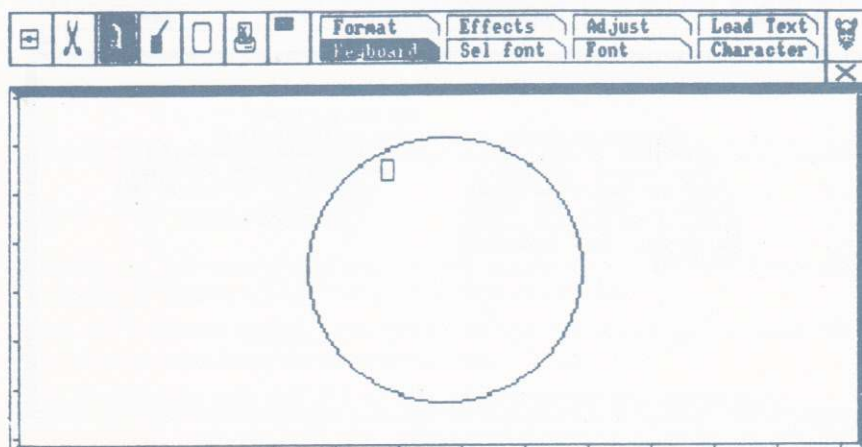

Fig 7.8 – Positioning the cursor in a circle.
10. Position the cursor inside the top left of the circle – See Fig 7.8.